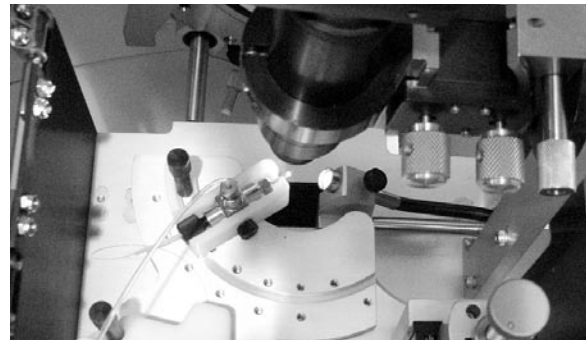

Figure 4.7: Fiber optic bundle properly installed
- 5) Insert the bundle adapter and the other end of the fiber optic bundle into the illuminator faceplate. Tighten the set screw to finger-tight. Figure 4.7 shows the assembled fiber optic bundle and mount.